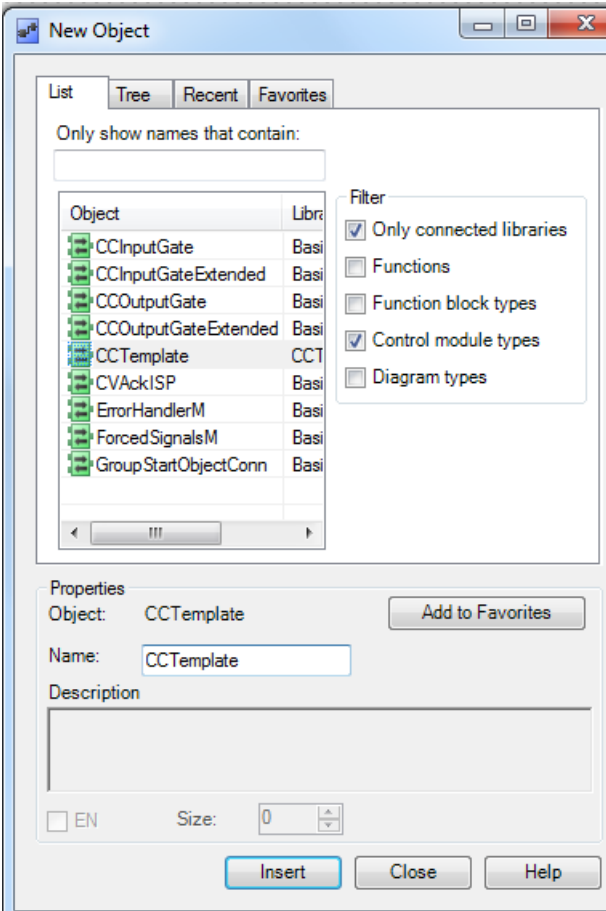

Figure 63. New Object dialog box
- b. In the New Object dialog box, select **CCTemplate** under the List tab. In the Name field, enter the name of the instance as *CCTemplate* (see Figure 63)